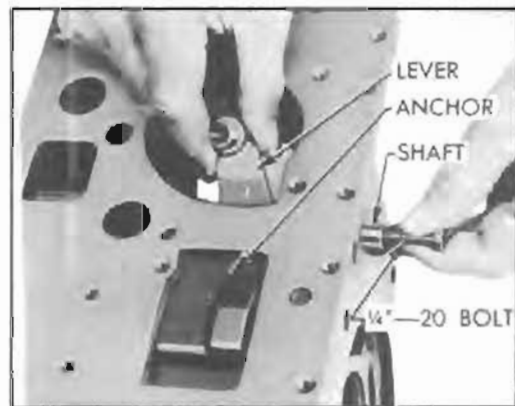

Figure 4-91—Removing Reverse Band Operating Lever and Shaft
4. Thread a  $\frac{1}{4}$ "-20 bolt into the reverse band anchor shaft to pull it from transmission case then remove the operating lever. Rotate the reverse band until the anchor can be disengaged, then remove this part. See figure 4-91.